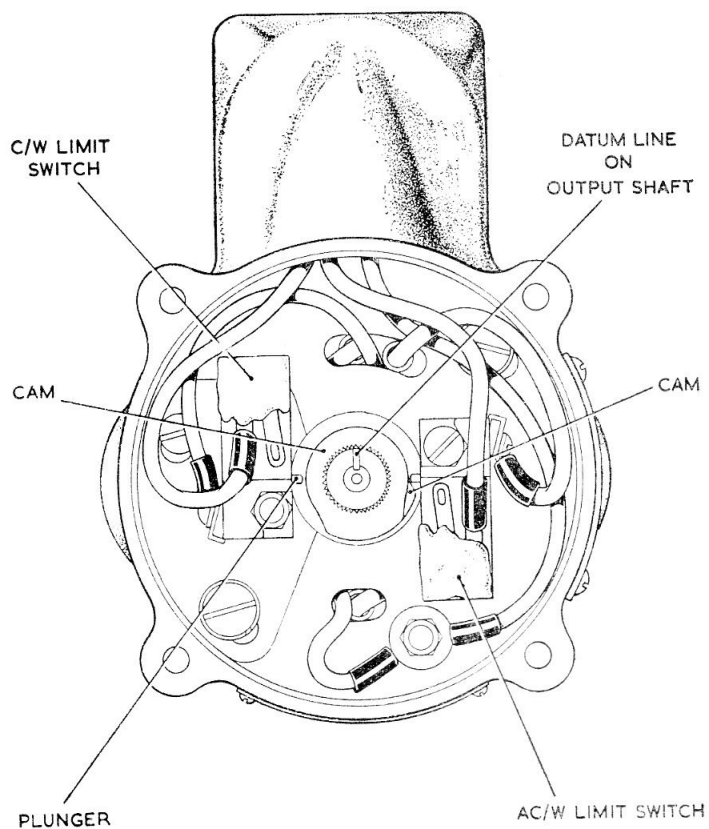

Fig. 2. Limit switches and cams
**1.** This actuator (*fig. 1*) is generally similar to that described in the main chapter. The rotary movement of the output shaft is limited to 60 deg. by the two internal limit switches; on the external face of the end plate is a spigot marked by two sawcuts, which indicate the extremities of travel of a datum line cut in the end of the output shaft (*fig. 2*).
**3.** Electrical connection is made by a four-pole plug (Ref. No. 5X/6006), which is mounted above the actuator but in line with its axis. The internal connections are as shown in the circuit diagram in *fig. 2*.